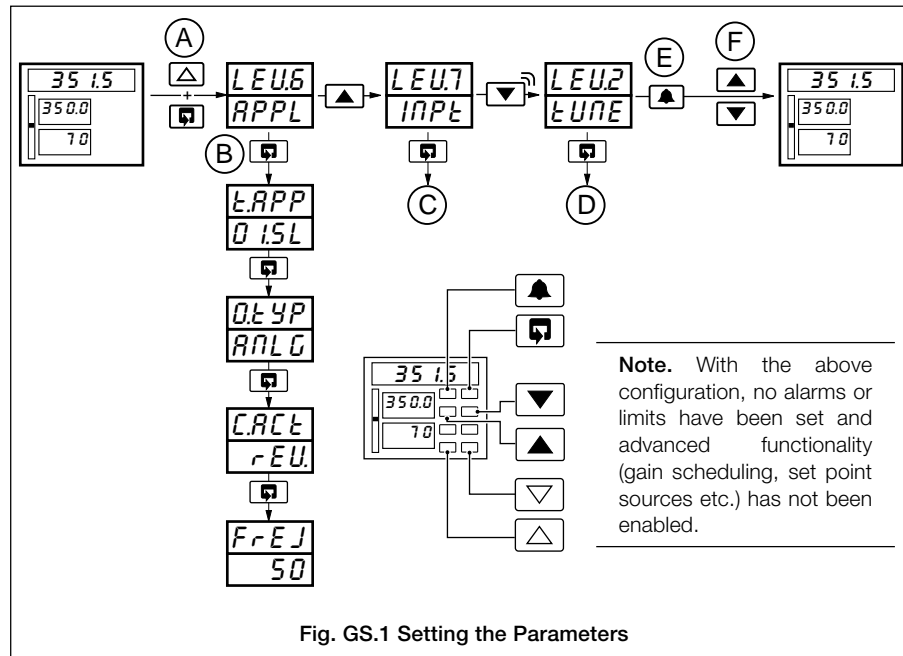

Fig. GS.1 Setting the Parameters
Step 3 – Setting the Parameters (Fig. GS.1)